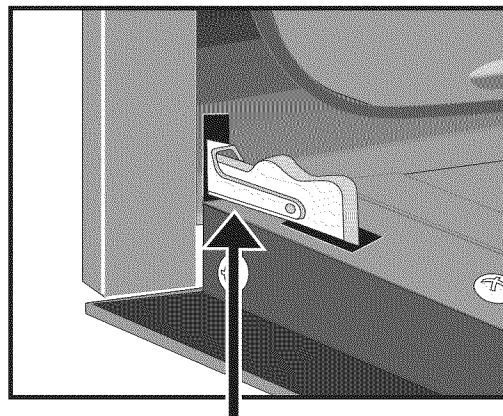

Figure 2
2. Pull up the lock located on each hinge support toward front of the oven. You may have to apply a little upward pressure on the lock to pull it up (Figure 2 and Figure 3).
4. Push the door hinge locks up toward and into the oven frame on both left and right oven door hinges to the locked position (Figure 2).